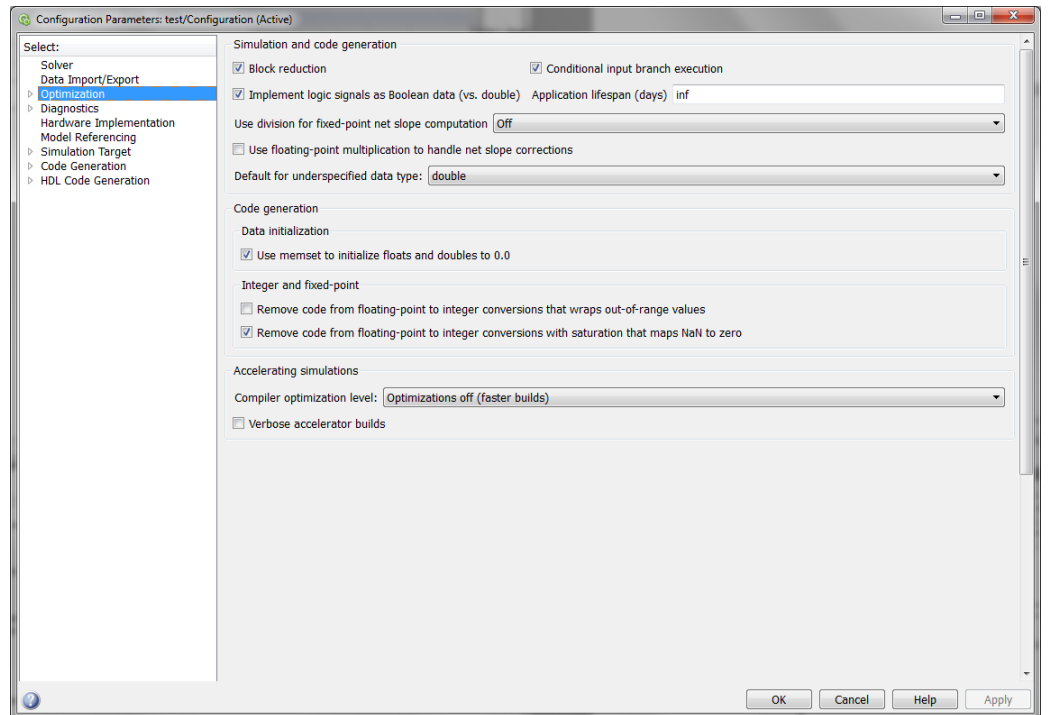

Figure 10: Configuration settings for Optimization.
2. Select the 'Optimization' option in the left-hand window pane. Refer to Figure 10 for the appropriate settings.